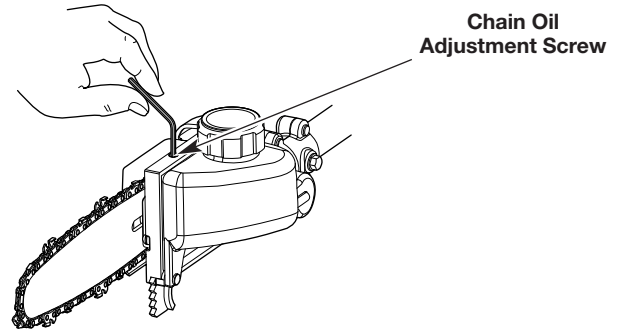

Fig. 15
1. Insert a 3/32-inch Allen wrench into the chain oil adjustment screw (Fig. 15).